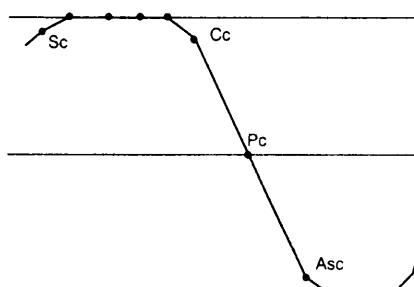

Fig 3.
- Adjust L603 so that the level of picture carrier (PC) marker point may be at the centre position as shown in fig. 3.